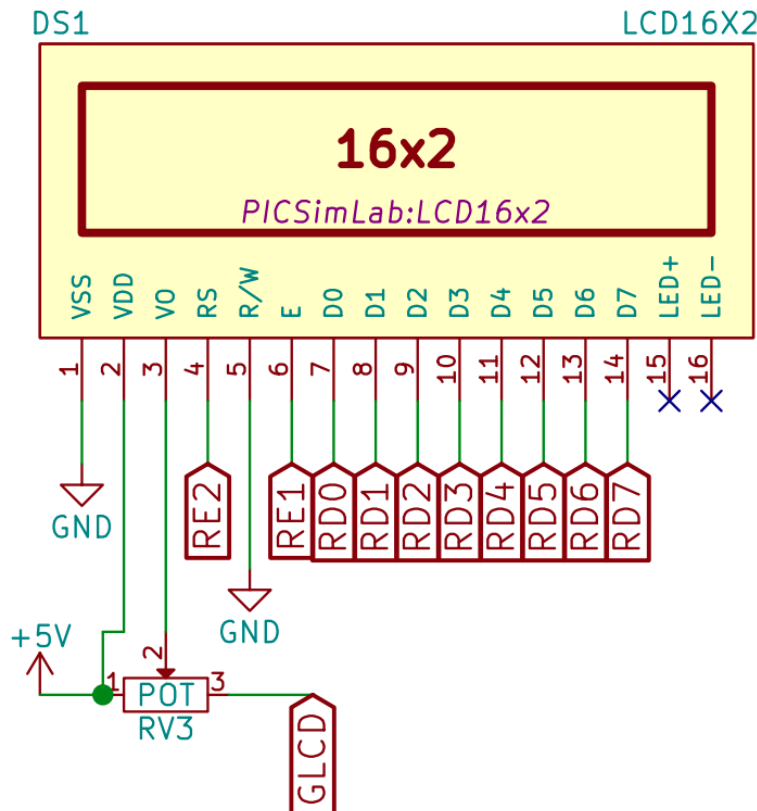

Figure 10: LCD Pin Diagram
PICGenios board of the PICSimLab has the HD44780 (16×2) LCD connected to it. It has 16 pins that we can use to communicate with it to display the glyphs we want. 5 of these 16 pins are used for ground(VSS), power(VDD), contrast of display(V0) and backlight(LED+/LED-) and aren't directly related to the operation of the LCD. These are already connected on the PICSimLab properly and we don't need to look into these 5 pins. Moreover, the R/W pin on PICGenios board is hardwired as 0 (connected to ground), so we don't need to consider it as well. When R/W pin is set HIGH, it is used to read values from the LCD's memory. So the pins we need to learn how to operate are Register Select(RS), Enable(E) and data bus(D0:D7). You can see in Figure 10 which pins of the PIC the LCD pins are connected to.